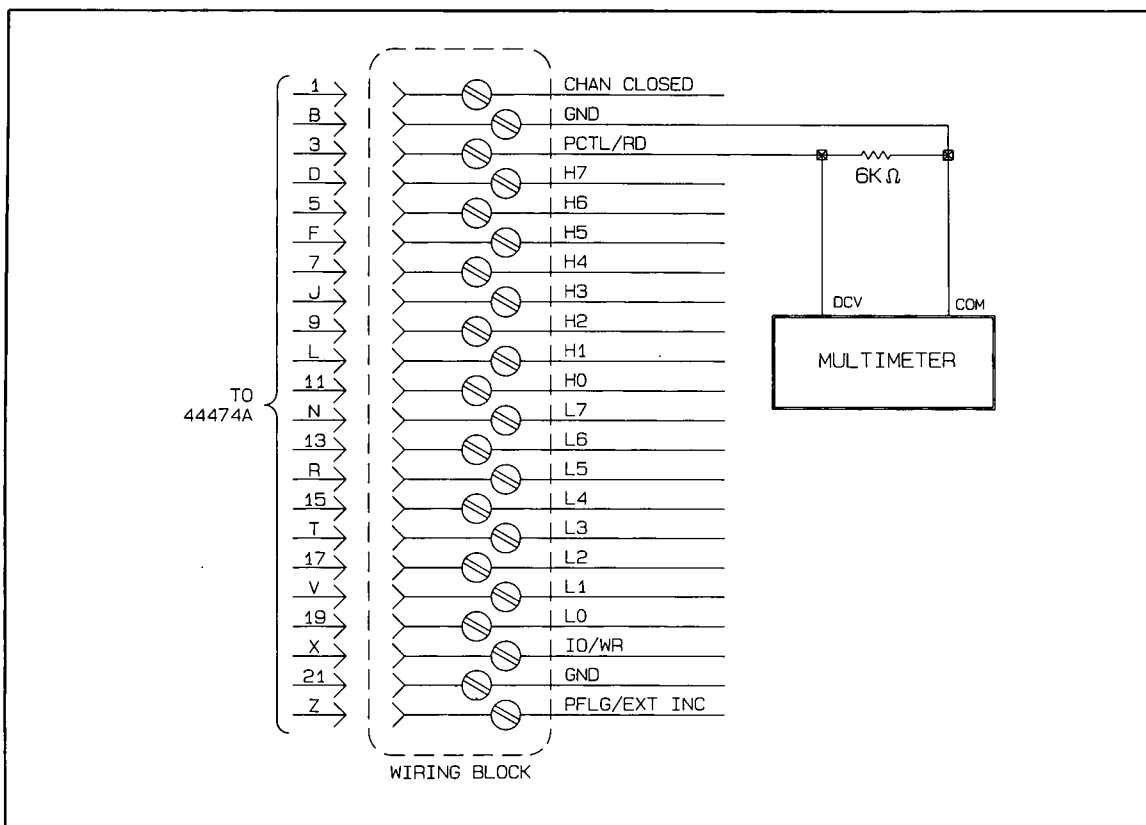

Figure 12-6 Control Line High Output Test
14. Connect the multimeter and the 6k ohm resistor to the PCTL/RD line as shown in Figure 12-6. The dc voltage should be $\geq 2.4V_{dc}$.